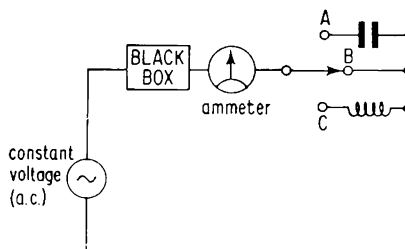

Fig. 394
21. A constant voltage a.c. supply is connected to a 'black box' as shown in Fig. 394. When the switch is moved from B to A the current is reduced. When moved from B to C it increases. What could be in the black box?